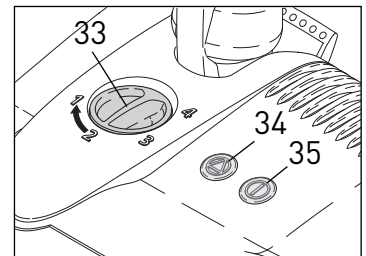

Figure 11
B. To clean delicate or hard floor surfaces with straight suction only, the power head is equipped with an on/off switch (35, figure 11). When this switch is used to turn off the brush roller, the green light will change to yellow, indicating to the user that the brush roller is not turning. Pushing the button again will turn on the brush roller and the light will turn green.
NOTE: The brush roller is off and stopped only when the machine is in an upright position and the handle is completely locked in place. If you have the machine at an angle, the brush roller will spin. Leaving the machine in a stationary position for an extended period of time while the brush roller is spinning may cause damage to your floor or carpet. You may also switch off the brush roller by pressing the on/off switch (35, figure 11) on the top of the power head.
Brush Obstruction Light & Auto Shut Off – Figure 11
The Brush Height Adjustment Feature - Figure 11
Indicator Lights - Figure 11
(35, figure 11)
(34, figure 11)